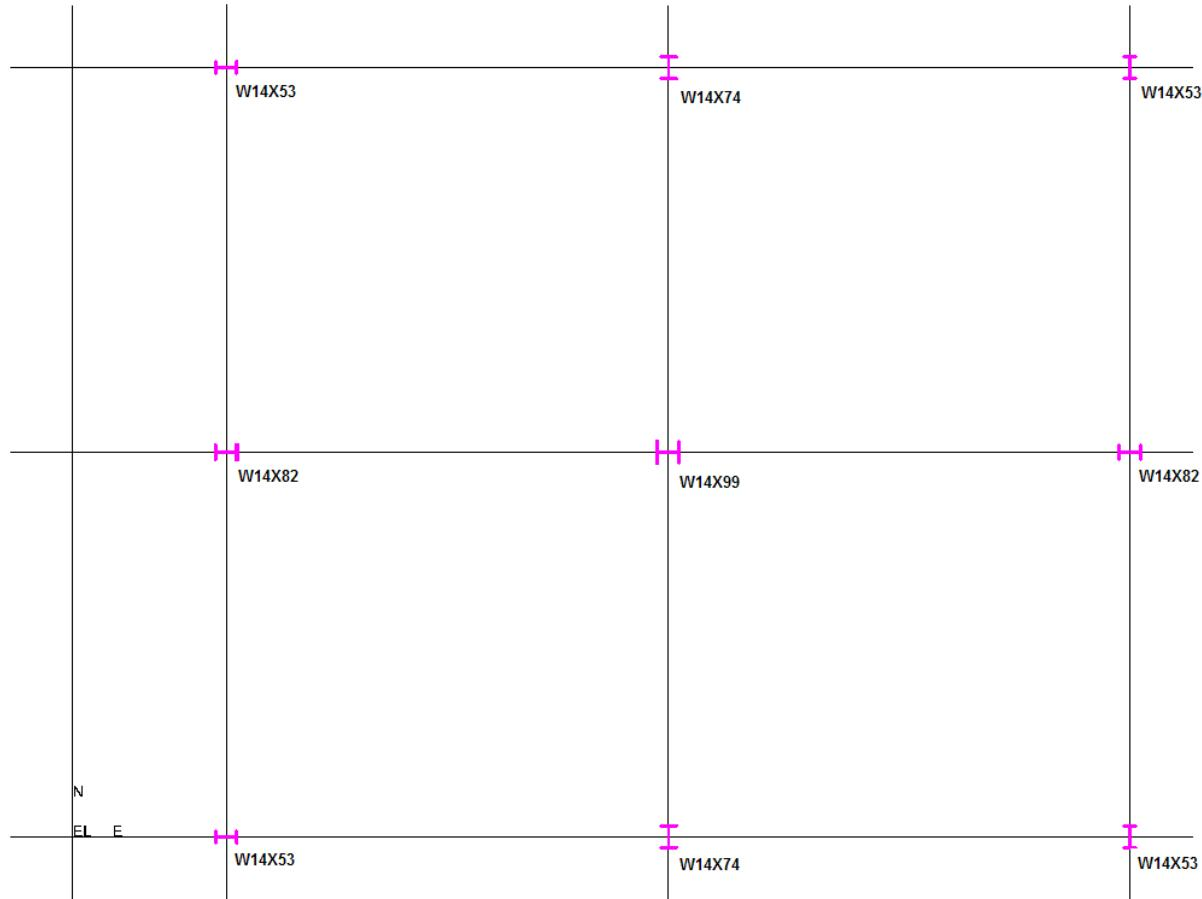

Figure 2 - Floor Plan
12. Multi-select the appropriate columns and use the SmartStep ribbon bar to change section size and the orientation as shown in figure 2.